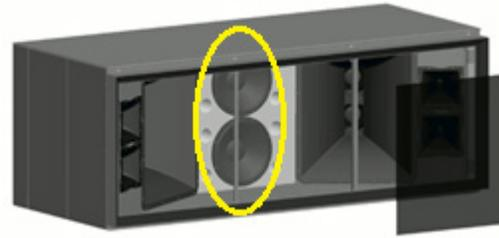

Figure 30: A-1903 Removal
- d. If bad, remove driver (**Figure 30**).